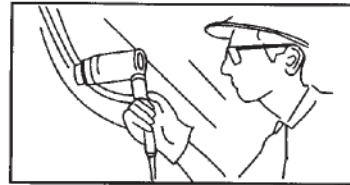

Figure 8
1. When the wheel is on the vehicle, use the bead breaker to break the back tire bead, following the same procedure used on the front tire bead. If the wheel is on the vehicle, you may need to use a smaller ram, such as an ESCO ESC-30 (10306), between the frame of the vehicle and the back flange (See Figure 8). Repeat the steps in “USING THE OTR-1825D OR OTR-1600 BEAD BREAKERS” on pages 2 and 3.